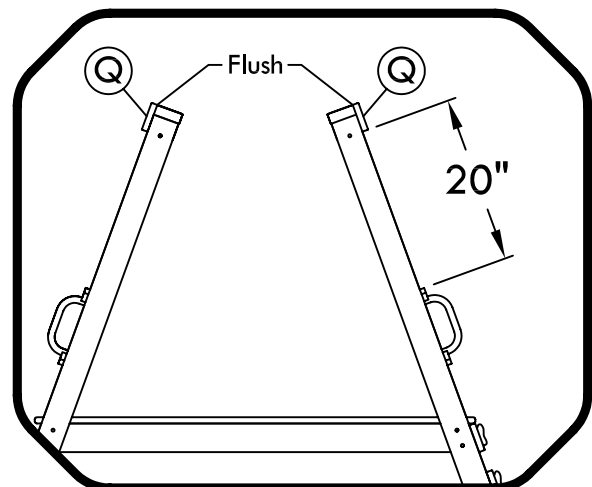

Fig. 10
- Step 3:** Attach Fort Rails 'Q' to the tops of the fort as shown with 2 1/4" deck screws. The edge of Q must be flush with the ends of the Uprights. (see Fig 10)
- Step 4:** Attach (1) hand grip to the side of each Upright and Ladder Rail with 1 1/2" tapping screws. There will be (3) hand grips per side of fort and they should be placed 20" down from the bottom edge of Fort Rails 'Q'. (see Fig 10)